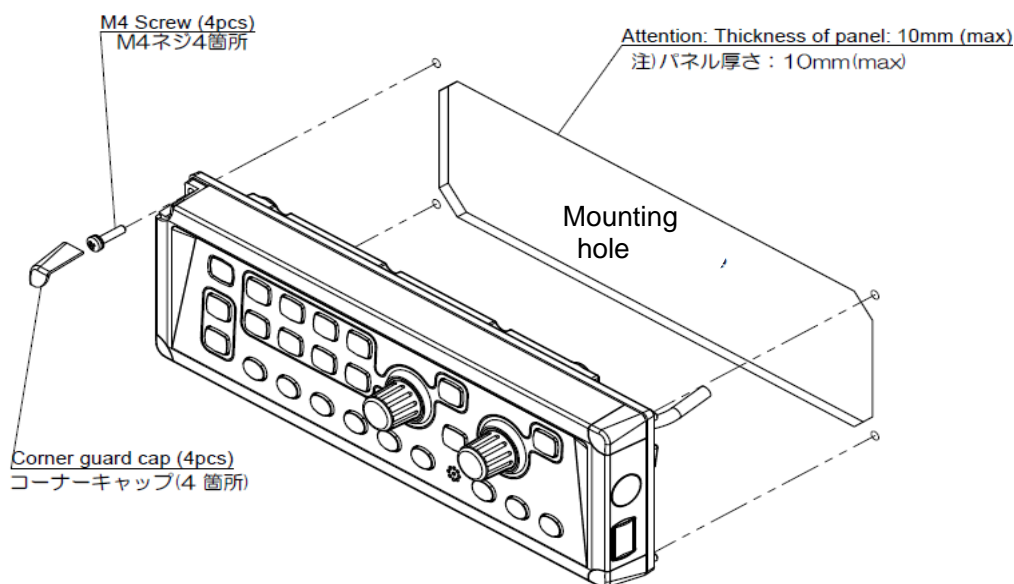

Fig. 1.5 Flush-mount installation of Operation unit
- (2) Remove 4 plastic corner guard caps of the Operation unit (These can be easily pulled out upwards).
- (3) Confirm that the Operation unit matches the mounting hole. If not matches, correct the mounting hole.
- (4) Put the Operation unit and connected cable into the mounting hole, and set it to the position in which the Operation unit becomes parallel to the install panel. (Fig. 1.5)
- (5) Install the Operation unit in the installing location (Mounting hole) and fix it with 4 tapping screws (4 mm) (M4 or pan-head). (Prepare 4 mm screws suitable for thickness of installing location.)
- (6) Install the corner guard caps removed in step (2).